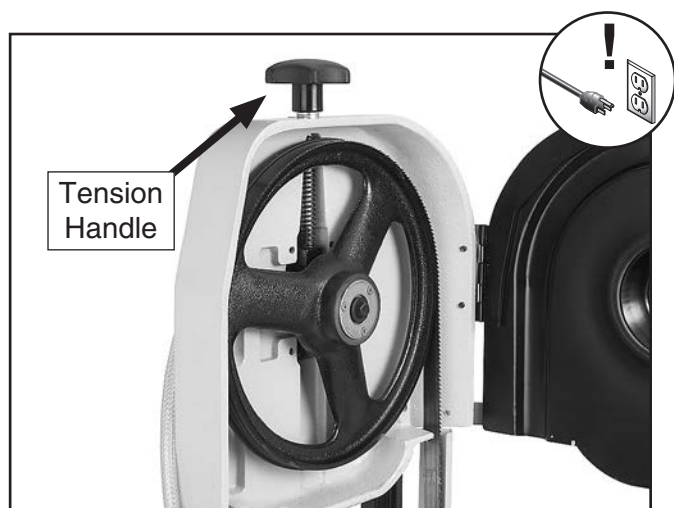

Figure 54. Location of tension handle.
4. Loosen tension handle shown in **Figure 54** and slip blade off of wheels.